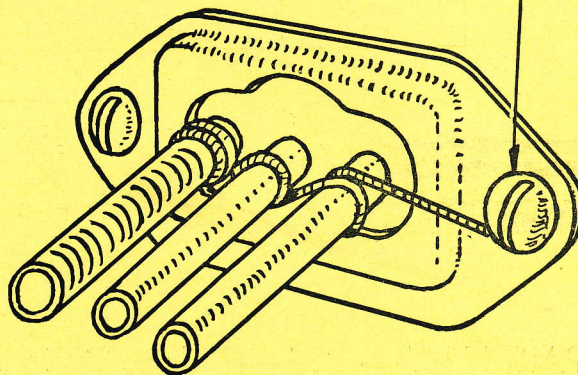

FIGURE 6
8. Ground the oil line and temperature indicator tube where they enter the dash under one of the gromet cap screws with the No. 14 stranded wire (see Figure 6).